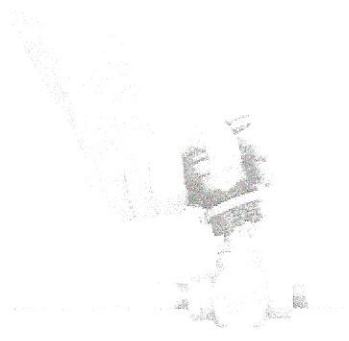

Figure 3: Tilt the actuator over the bonnet.
4. Tilt the actuator slightly, and snap the yoke over the valve bonnet as shown in Figures 3 and 4.